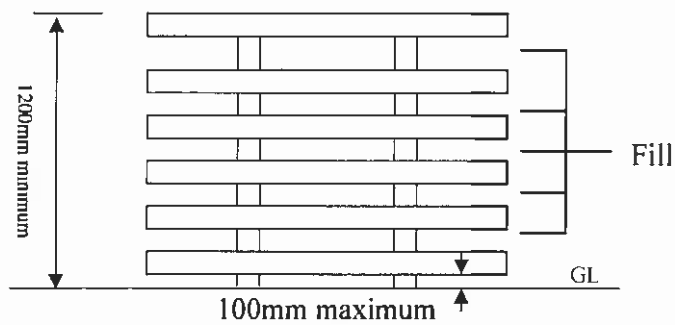

Figure 3
- You CAN easily make them legal by filling in the gaps (Figure 3).